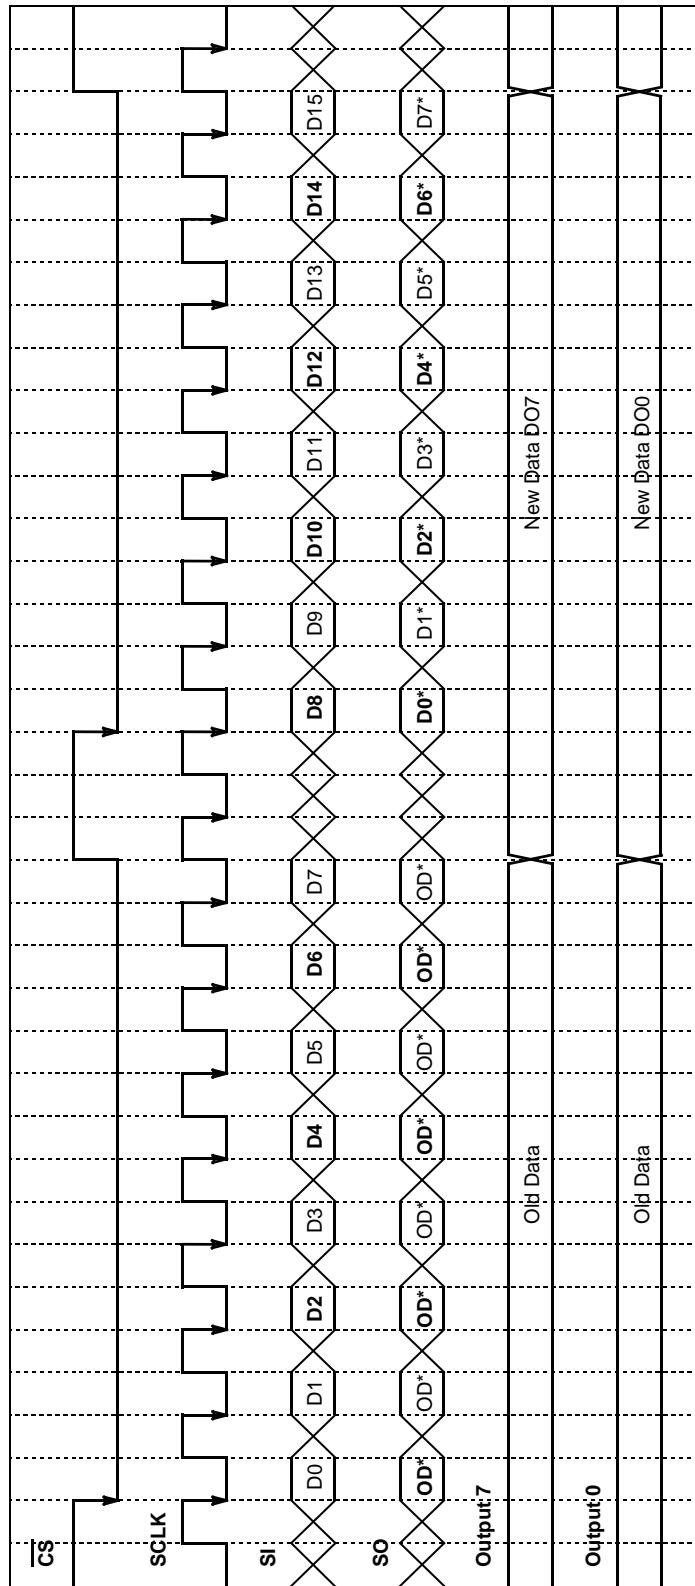

Figure 18. Data Transfer Timing
any transition. For this reason, it is recommended, though not absolutely necessary, the SCLK pin be kept in a low logic state as long as the device is not accessed (CS in logic high state). When CS is in a logic high state, signals at the SCLK and SI pins are ignored and SO is tri-stated (high-impedance). See the Data Transfer Timing diagram in Figure 18.
To program the eight outputs of the 33298 ON or OFF, an 8-bit serial stream of data is required to be synchronously entered into the SI pin starting with Output 7, followed by Output 6, Output 5, and so on, to Output 0. Referring to Figure 18, the DO bit is the most significant bit (MSB) corresponding to Output 7. For each rise of the SCLK signal, with CS held in a logic low state, a data-bit instruction (ON or OFF) is synchronously loaded into the Shift register per the data-bit SI state. The Shift register is full after eight bits of information have been entered. To preserve data integrity,
The serial output (SO) pin is the tri-stateable output from the Shift register. The SO pin remains in a high-impedance state until the CS pin goes to a logic low state. The SO data reports the drain status, either high or low relative to the previous command word. The SO pin changes state on the rising edge of SCLK and reads out on the falling edge of SCLK. When an output is OFF and not faulted, the corresponding SO data-bit is a high state. When an output is ON, and there is no fault, the corresponding data-bit on the SO pin will be a low logic state. The SI/SO shifting of data follows a first-in-first-out (FIFO) protocol with both input and output words transferring the MSB first. Referring to Figure 18, the DO bit is the MSB corresponding to Output 7 relative to the previous command word. The SO pin is not affected by the status of the Reset pin.
The MCU can perform a parity check of the fault logic operation by comparing the command 8-bit word to the status 8-bit word. Assume after system reset, the MCU first sends an 8-bit command word to the 33298. This word is called Command Word 1. Each output to be turned ON will have its corresponding data bit low. Refer to the data transfer timing illustration in Figure 18.
As Command Word 1 is being written into the Shift register of the 33298, a status word is being simultaneously written and received by the MCU. However, the word being received by the MCU is the status of the previous write word to the 33298, Status Word 0. If the command word of the MCU is written a second time (Command Word 2 = Command Word 1), the word received by the MCU, Status Word 2, is the status of Command Word 1. The timing diagram illustrated in Figure 18 depicts this operation. Status Word 2 is then compared with Command Word 1. The MCU will Exclusive OR Status Word 2 with Command Word 1 to determine if the two words are identical. If the two words are identical, faults do not exist. The timing between the two write words must be greater than 100 $\mu$ s to receive proper drain status. The system data bus integrity may be tested by writing two like words to the 33298 within a few microseconds of each other.